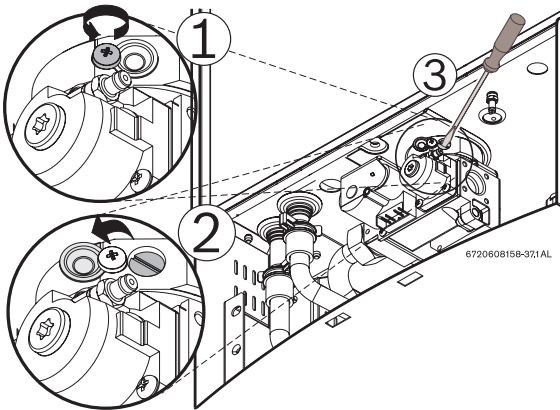

Fig. 57 Adjusting P1 CO2 level
- ▶ Loosen yellow painted philips screw (1) and cover should rotate down (2) revealing a recessed brass slotted screw. Fig. 57.